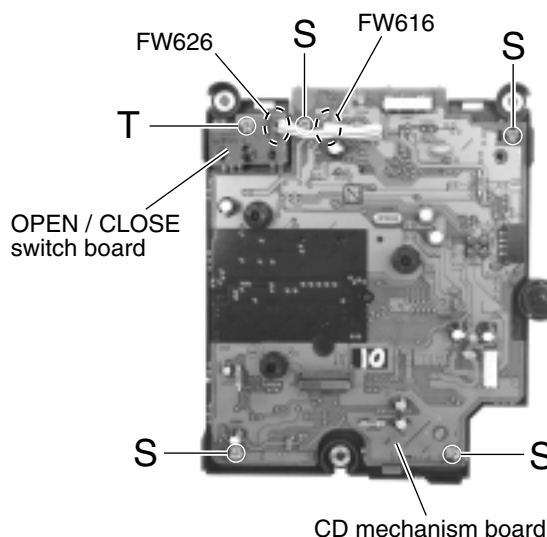

Fig.27
(See Fig.27)
■ Removing the OPEN / CLOSE switch board (See Fig.27)